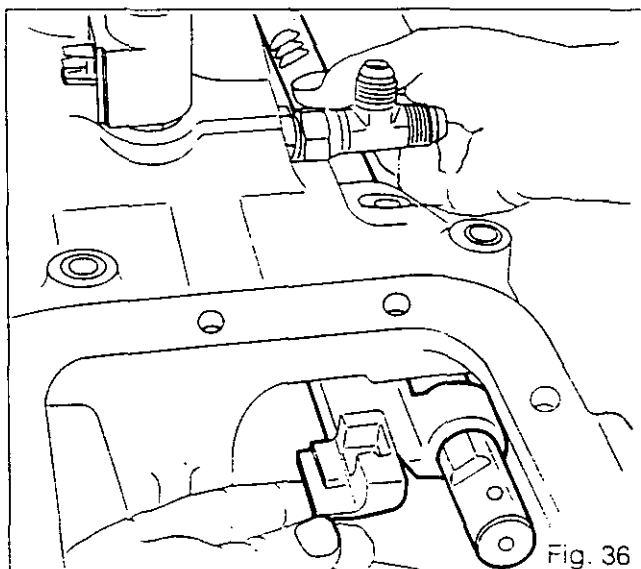

Fig. 36
**Note: Use the shifter rail to retain the fork (Fig.36).**